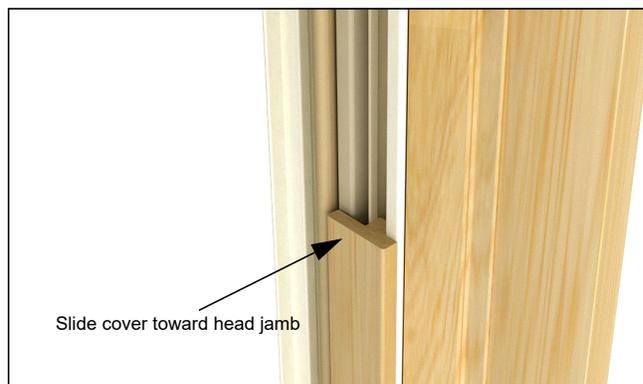

Figure 3
4. To replace the jamb covers, insert one end in first between the flexible legs of the vinyl carriers, then slide the cover tight against the head jamb. Work your way along the cover and press into place. See figure 3.